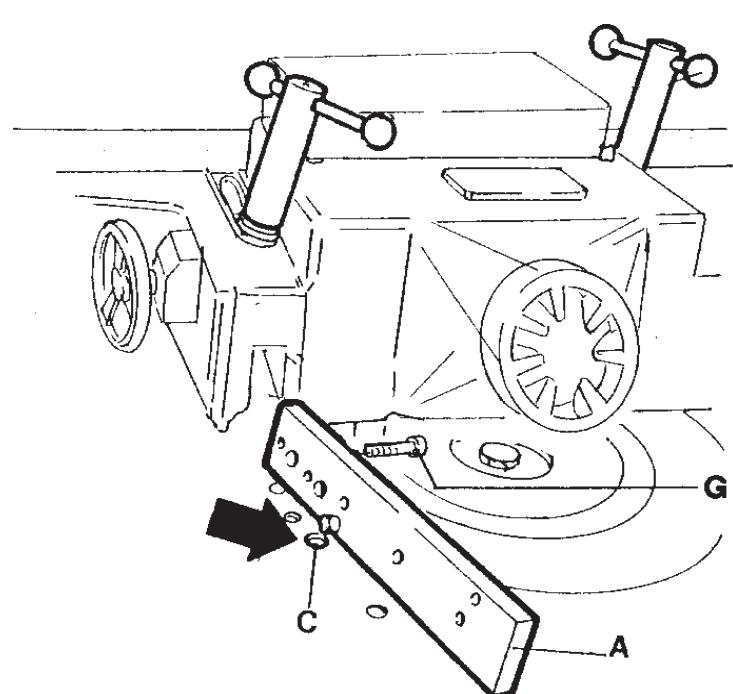
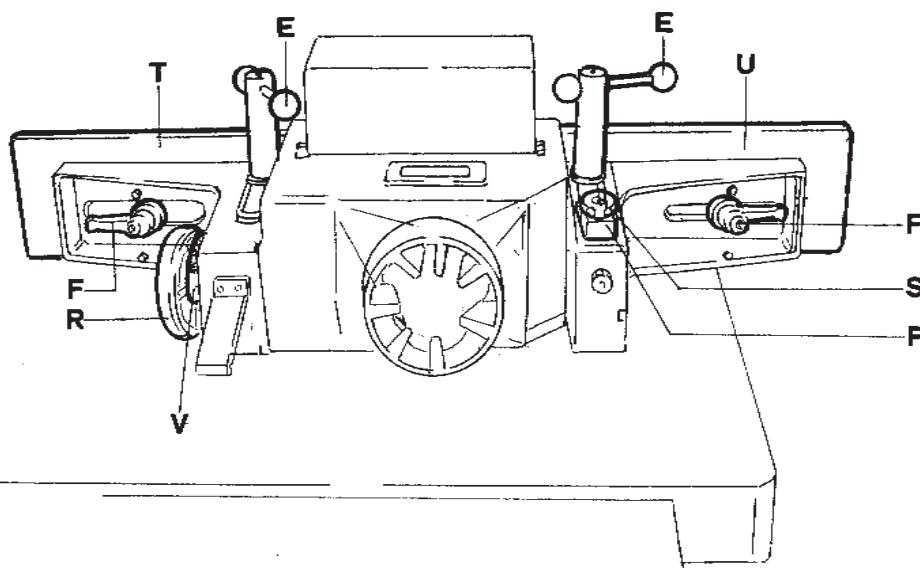

Fig. 12
Fig. 13
Cuffia-guida toupie con registrazione della posizione -Lavori di profilatura- fig.13
- 3) Inserire il perno con maniglia E nelle sedi filettate fig. 13 : non stringere i perni.
- 4) Portare la guida in legno con il pomello S fig.13 completamente indietro (prima di iniziare la lavorazione).
### 3.6 - MOULDER FENCE ADJUSTMENT, figs. 12 and 13
Hood-and-moulder fence adjustment for shaping jobs (fig. 13). Mount the tool before installing the hood-and-moulder fence. The adjustable fence is secured to the largest ring.
- 1) Place the mounting plate (A) on the worktable as shown in figure 12. Insert the dowel into the hole (C) and secure the plate to the largest ring by using the screw (G).
- 2) Place the hood-and-moulder fence assembly so that the groove fits over the plate (A).
- 3) Fit the handle-and-pin assembly (E) into the tapped holes (see fig. 13). Do not tighten the threaded pins.
- 4) Before starting work, move the wooden fence fully backwards by using the knob (S, fig. 13).
- 5) Use the handwheel (R) to set the wooden fence to the required working position.
- 6) Use the handwheel (R) to adjust the half-fence (T) according the amount of material to be removed.
Funda-guía toupie con regulación de la posición - Trabajos de perfilado - fig. 13. Montar el grupo funda - guía toupie después de haber colocado y fijado el utensilio. La guía especial regulable está fijada en el anillo más grande.
- 3) Introducir el perno con manilla E en los alojamientos fileteados - fig. 13: no apretar los pernos.
- 4) Colocar la guía de madera con el pomo S, fig. 13 completamente hacia atrás (antes de iniciar el trabajo).
- 7) Avvicinare le due metà guida T-U il più possibile all'utensile e bloccarle con le maniglie F fig.13.
- 7) Move the two half-fences (T and U) as close as possible to the tool and secure them in place by using the handles (F, fig. 13).
- 8) Tighten both pins by using the handle (E).
9) Adjust the half-fence at the exit end by using the knob (S). Observe the indicator (P). Bring the the half-fence (at the exit end) slightly into contact with the machined piece to compensate for the amount of material removed. This will guarantee that the piece is safely in place.
- 7) Acercar las dos mitades guía T-U lo más posible al utensilio y bloquearlas con las manillas F (fig. 13).